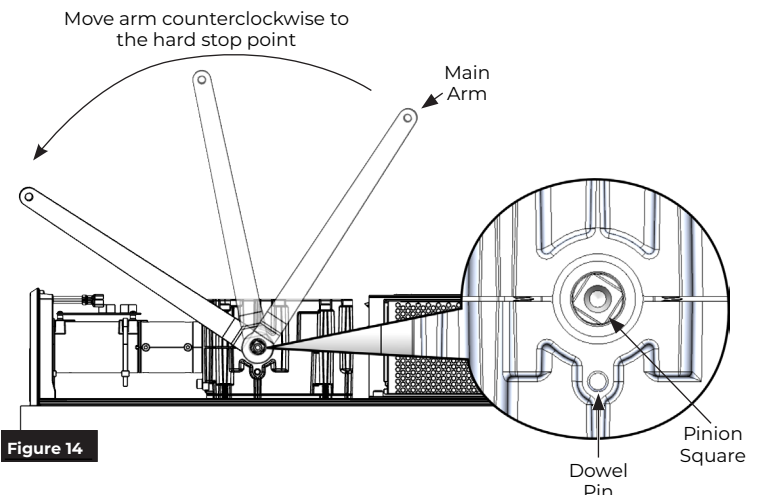

Figure 14
1. Locate the dowel pin on the side of the operator housing (adjacent to the pinion square). (Figure 14)